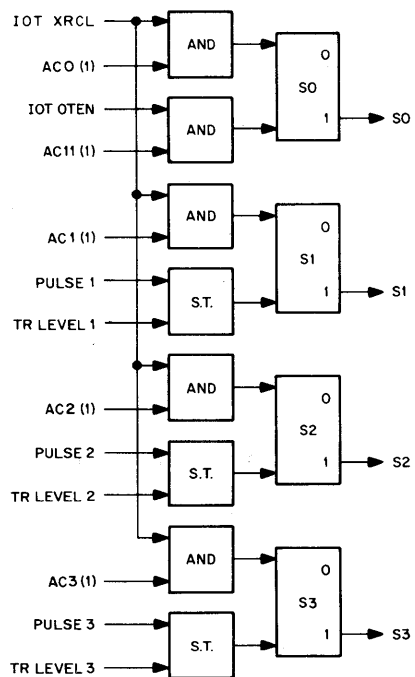

Figure 3-7 "Sync" Channel Logic
A level may be output on S0 (sync channel) by the instruction OTEN with AC11(1) as shown in Figure 3-7. Flip-flops S1 and S2 are set by the output of Schmitt triggers. The inputs and lower threshold levels for these Schmitt triggers are available on the front panel of the AX08. Sync S3 is part of option XR, as are the contingency inputs (C0 through C7).